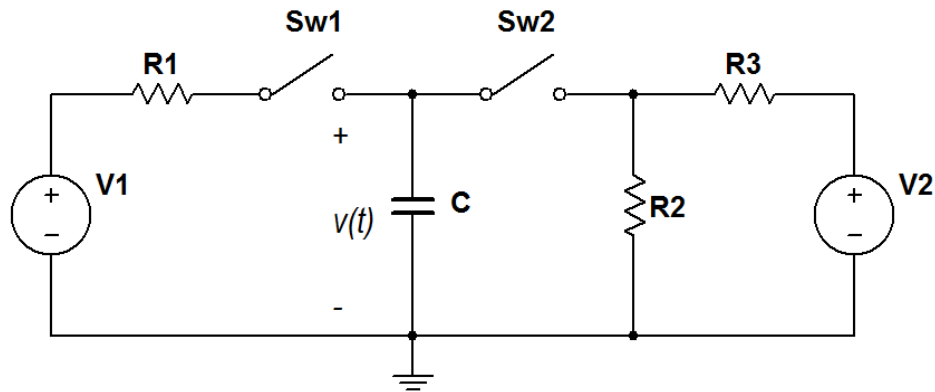
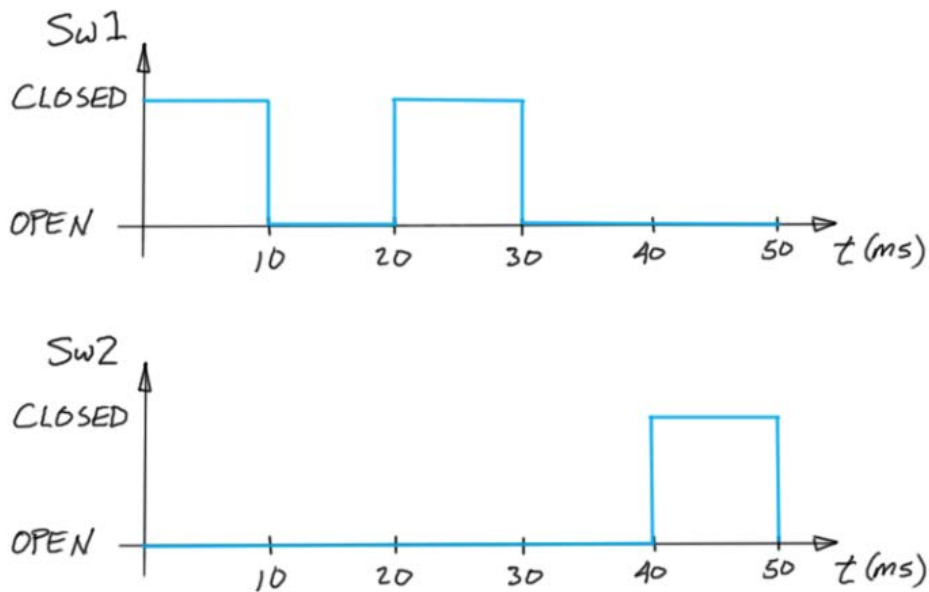

Figure 5.3: Circuit for Problem 5.3
Figure 5.4: Switch positions for Problem 5.3
Figure 5.3 shows a resistor-capacitor circuit with a pair of switches and Figure 5.4 on the next page shows the switch opening-closing behavior as a function of time. The initial capacitor value is -9 volts.
1. Enter the circuit of Figure 5.3 using the following components:
- ABM_VOLTAGE (Analog Behavioral Modeling) voltage source; use step functions ($u(\text{TIME})$) to create the switch control waveforms of Figure 5.4.
1. Construct the circuit of Figure 5.3 on page 66 using the following components and NI ELVISmx instruments:
- Arbitrary Waveform Generator to create the switch control waveforms of Figure 5.4 on the previous page.
The circuit of Figure 5.3 on page 66 permits the capacitor to be charged to a desired voltage by closing one of the switches that connects the capacitor to a source. After charging, opening both switches should in principle allow the capacitor to maintain its “charge” (or stored energy) indefinitely. However, the physical capacitor contains a nonideal dielectric material between its plates that allows a slow trickle of current that eventually depletes the stored energy. The nonideal dielectric can be modeled as a resistor in parallel with the capacitor plates.